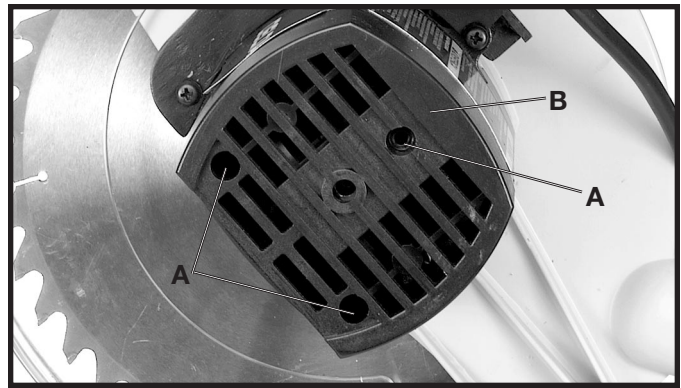

Fig. 46
1. Remove three screws (A) Fig. 46 and remove motor cover (B).